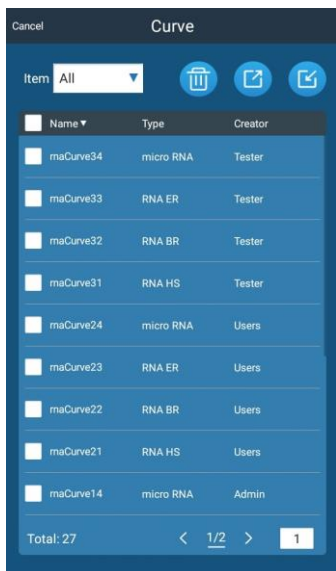

Fig 5.6.04 Curve Management Interface
From the Standard Curve Interface Click  to enter Curve Management Interface (Fig. 5.6.04).
-  : Export the selected curve(s) to a USB drive (Fig 5.6.04).